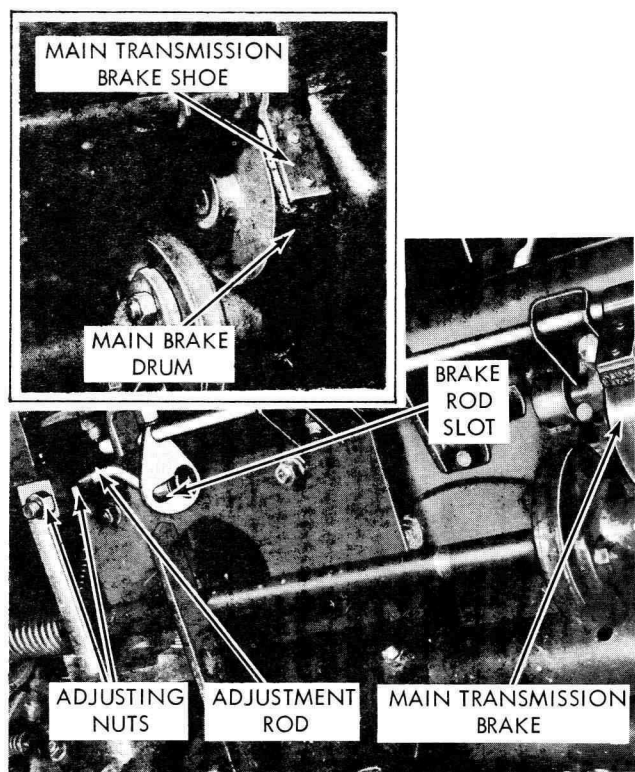

Figure 17
1. Depress CLUTCH-BRAKE pedal approximately two-thirds (until rear clutch flange has moved back to touch stationary plate). At that time the adjusting rod has moved up to top of brake rod slot. (See Figure 17.)
2. Exert additional pressure on pedal to move brake shoe shown in Figure 17, toward Main Brake drum.
4. Adjust nuts on adjusting rod to insure adequate brake shoe pressure. (See Figure 17.)